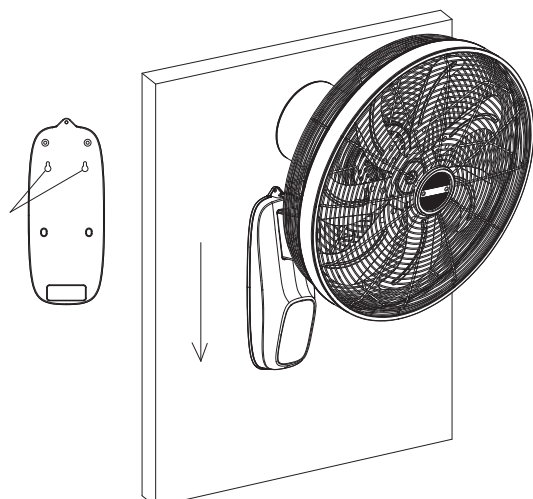

Fig. 5
3.4 Hang the fan assembly onto the two mounting bracket screws. (Fig.5)